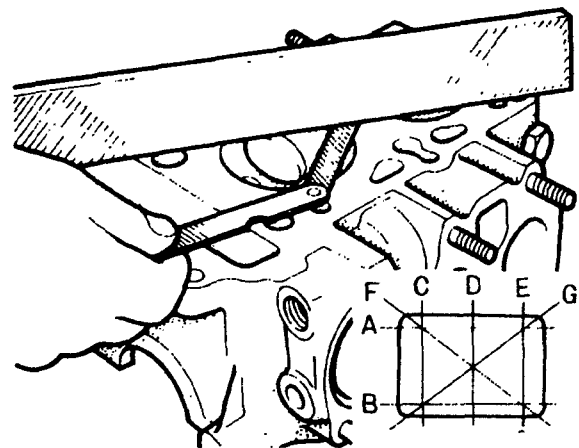

FIGURE 9-17. CHECKING CYLINDER HEAD DISTORTION
3. Measure the flatness of the cylinder head bottom surface by using a straight edge and thickness gauge (Figure 9-17). The flatness should be measured by holding a straight edge to the positions A, B, etc. as shown. When checking flatness, be sure that there are no broken pieces of gasket on the bottom surface of the cylinder head.